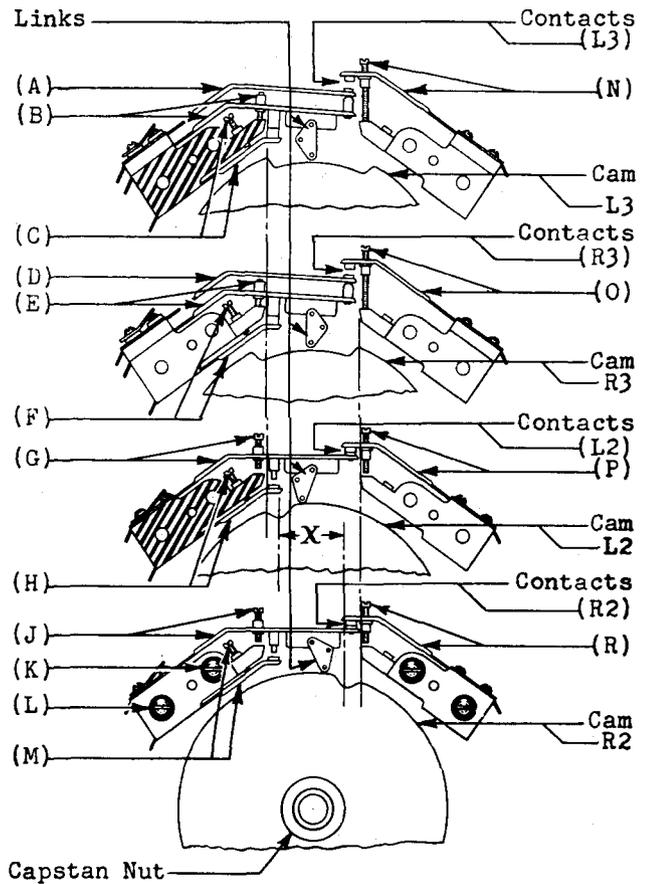

Fig. 9 - Centering Cams and Contacts
2.17 Centering Cam Contacts: Fig. 9
- (a) Tension of Contact Springs: The tension of contact springs (A), (D), (G) and (J), with the associated links in the cam cut-out, shall be:
(a) The distance between the centers of the cutouts in cams L2 and R2 shall be 7/8 inch (dimension X Fig. 9). Gauge by sighting over a scale.
(b) With the TRS MOT dial set on a division mark the relative positions of cams L3 and R3 with respect to other cams and the associated contact links shall be as shown in Fig. 9. Gauge by eye.